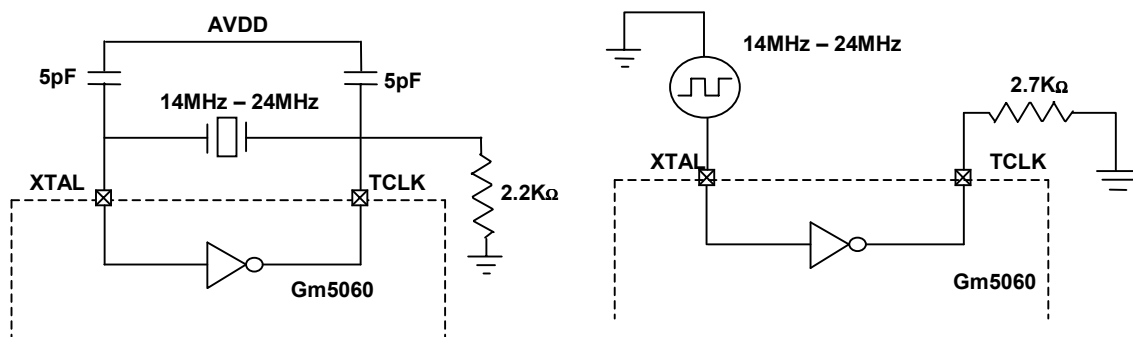

Figure 4. Clock Generation Options for gm5060
TCLK is generated using an external crystal (recommended) or an external clock oscillator, as shown in Figure 4.
- 1) Input Clock (TCLK). The external connection to the oscillator is via the TCLK and XTAL pads. A 14.3MHz crystal source is recommended, as internal PLL and logic circuits derive the required clock frequencies from this single source by default. Other crystal frequencies may be used (as indicated in Figure 4), but require custom bootstrapping and programming. In lieu of using a crystal oscillator, XTAL can be driven by a single-ended TTL/CMOS input clock (e.g. for testing of the IC) -- the TCLK pin should be grounded through a 2.7k pulldown resistor to maintain the correct duty cycle for the clock.